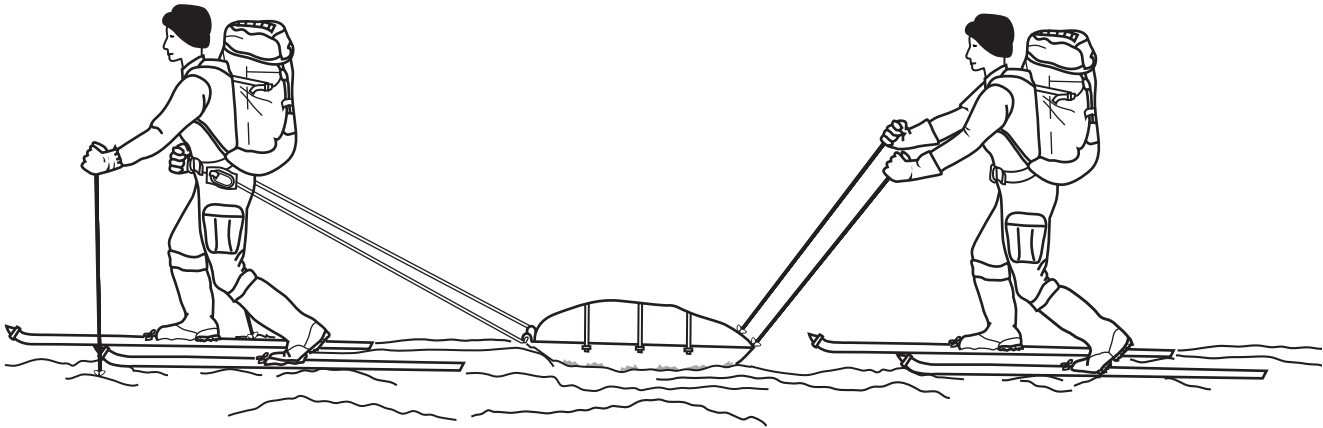

Figure 8-3. Assisting the Sled Puller.
- One team member can assist the sled puller by pushing the sled from the rear with his/her poles, as shown in figure 8-3.